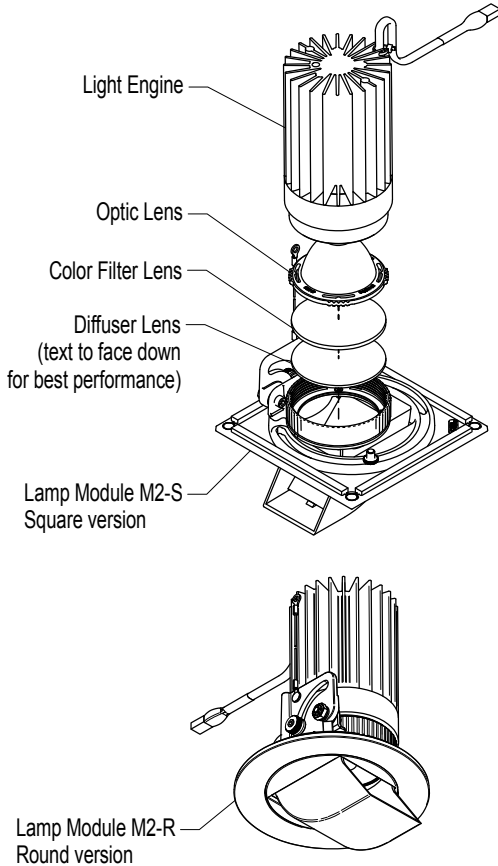

FIG 4.2 Installing Lamp Module Accessories
Step 4 Choose general aiming position desired. Attach Safety Cable from Trim Cable Clip to Lamp Module before inserting Lamp Module through Housing aperture. Seat Trim Plate into Trim as shown. Note: horizontal & vertical aiming position adjustment is lockable using Lock Knobs. General aiming position is easily changed by pulling Lamp Module out slightly & rotating into one of 4 positions - Fig 4.2 & 4.3.
Optional Accessories: Unscrew LED Engine Subassy to add/remove Lens accessories - Fig 4.2.